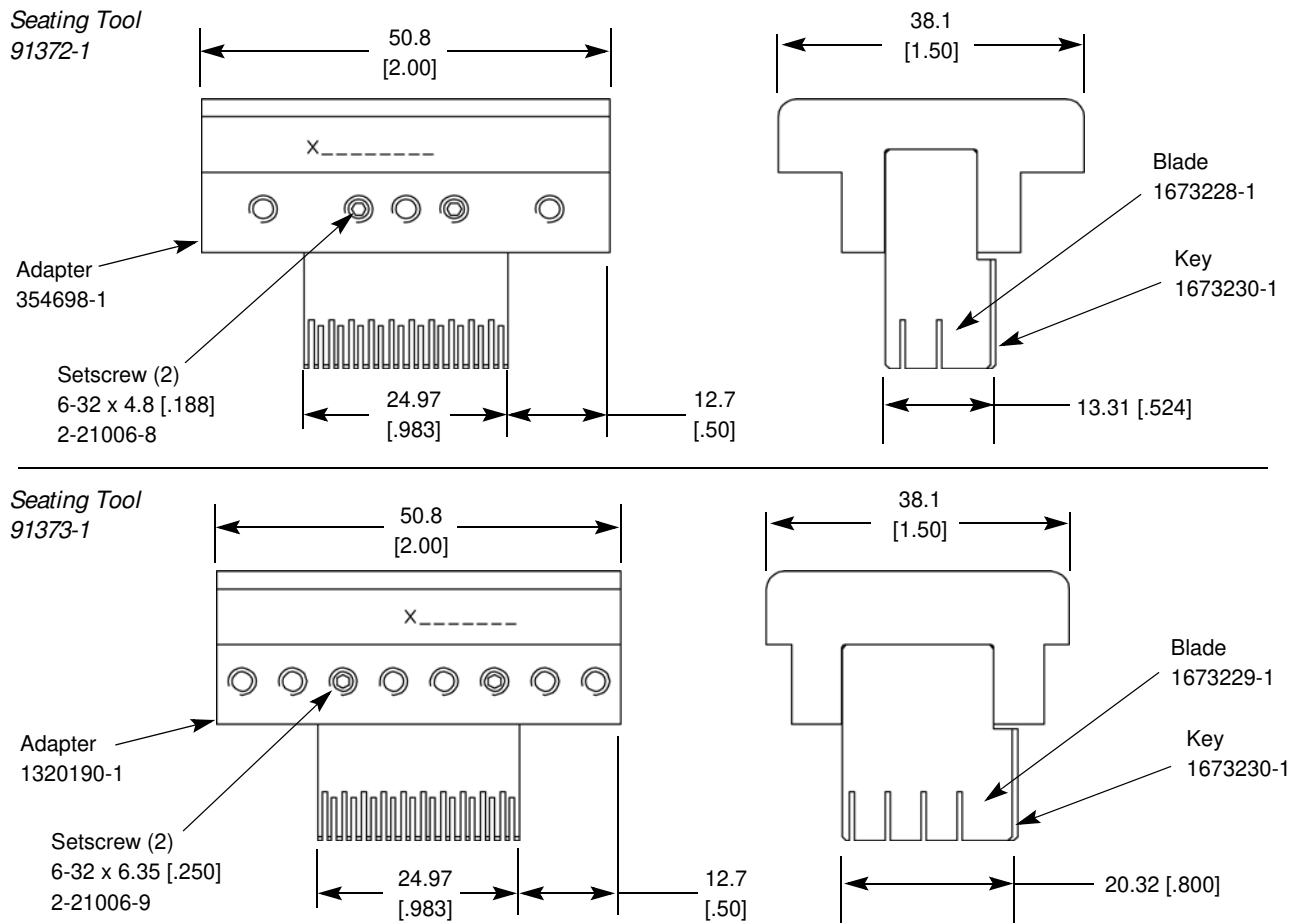

Figure 3
Each seating tool is assembled and inspected before shipment. It is recommended that the tool be inspected, using Figure 3, immediately upon its arrival in your plant to assure that it has not been damaged during shipment.
The parts shown in Figure 3 are customer-replaceable. A complete inventory can be stocked and controlled to prevent lost time when replacement of parts is necessary. Order replacement parts through your field representative, or call 1-800-526-5142, or send a facsimile of your purchase order to 1-717-986-7605 or write to:
- Modified replacement and repair information in Figure 3 and Section 7.